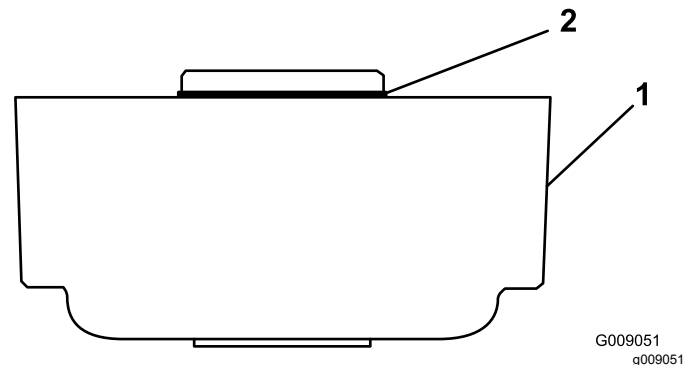

Figure 5
5. On Roller Brush Kit Model 03668 only, install the yellow O-ring onto the roller brush housing (Figure 5).